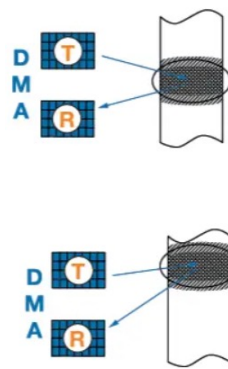

Figure 7: Performing the TRL Technique with DMA Probes. Using the TRL technique with DMA probes offers the ability to steer the skew angle of the beam.
- **Beam skewing** to steer the UT beam off-axis and interrogate flaws from multiple angles (Figure 7)